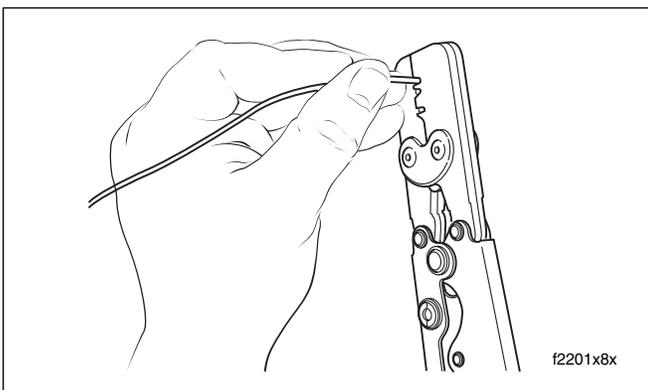

Figure 8-32. Crimp Terminal Onto Wire
9. Squeeze handle of crimp tool until tightly closed. Tool automatically opens when the crimping sequence is complete. See Figure 8-32.